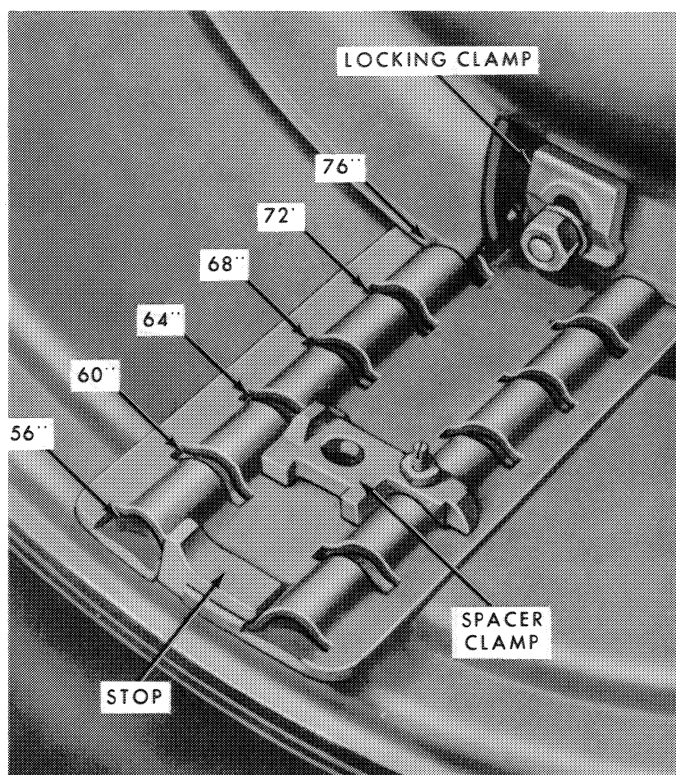
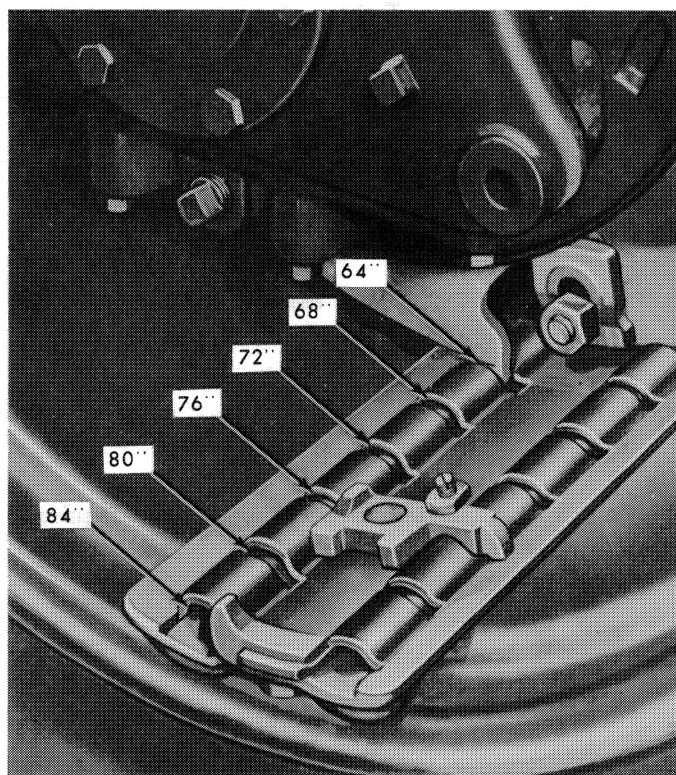

Figure 8—Tread Width Adjustments
Figure 9—Tread Width Adjustments—Wheels Reversed
The rear wheels may be moved to any desired width in the tread range of 56 to 76 inches without raising the tractor wheels, Figure 8. Tread widths of 64 to 84 inches can be obtained by reversing the wheels, Figure 9. Engine power is utilized to move the wheel in and out.
Changing the tread width with a power adjusted wheel is similar to turning a bolt in a nut. The rim acts as the nut, with slotted channel bars which serve as threads. The wheel disc acts as a bolt, having a helical shape with a 2 inch pitch. *Each wheel must be adjusted separately.* The different tread widths possible with the power adjusted wheel are shown in Figure 8. Each complete revolution of the wheel changes the tread width 2 inches. By placing the
4. Place the spacer clamp in the channel thread bar for the desired setting, as shown in Figure 8. Insert the oval head bolt in the channel slot, turn it so that the bolt head is secure in the
NOTE: *With the wheels reversed (dished in), it will be necessary to work from the inside of each wheel when making adjustments, Figure 9. Refer to Power Adjusted Rear Wheels for the detailed procedure.*